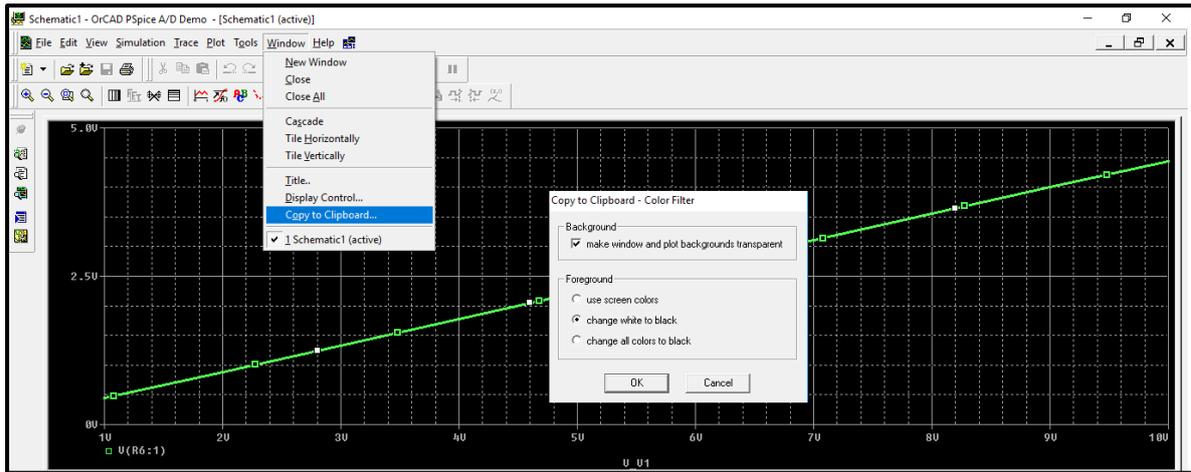

Figure.19
- To copy the output curve to a word document, go to the simulation output window and click on window then select “copy to clipboard”, then select ok as shown in figure.19.